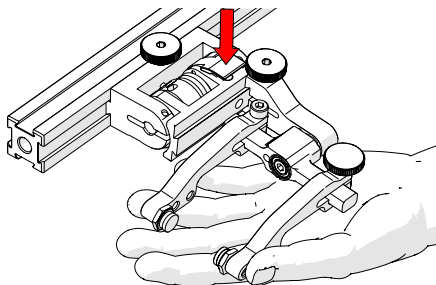

Fig. 157 - Lift slightly and press latch
2. Lift the probe holder slightly and press the latch button (Fig. 157) to release the probe holder to the full 45° degrees.